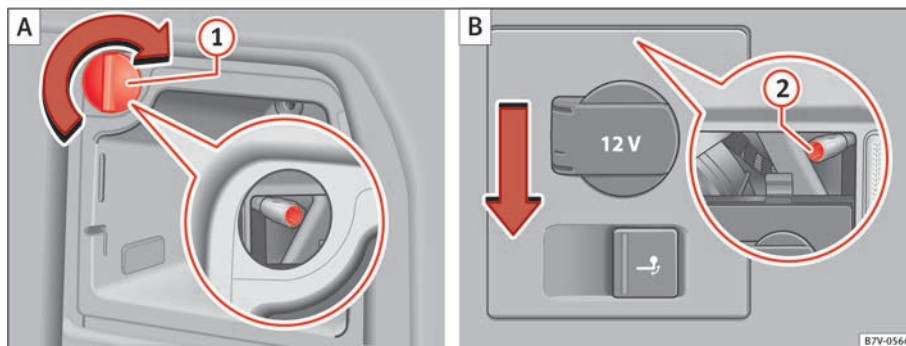

Fig. 211 On the side of the luggage compartment: To remove the left and right hand side tail lights. ① remove the cap; ② attachment screw.
4.	Rotate the cap ⇒ fig. 211 ① 90° in the direction of the arrow and remove it.
5.	Unscrew the attachment screw ⇒ fig. 211 ② using the screwdriver from the on-board tools ⇒ page 320. The bolt is secured in its position.